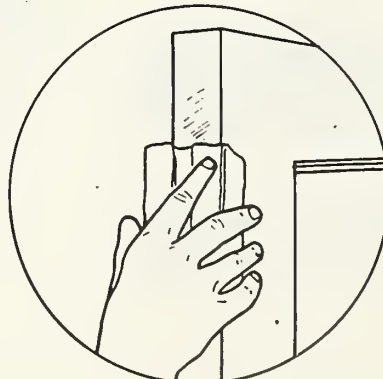

Fig. 6
2. Look for a shiny spot on the door where it sticks. Open and close the door slowly to find the spot. Sand down the shiny spot. Do not sand too much, or the door will not fit as tight as it should. (Fig. 6)